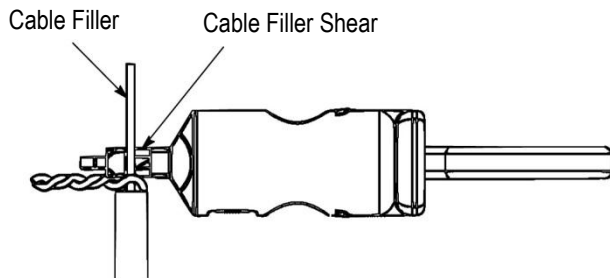

Figure 3
**4. CUTTING THE CABLE FILLER** (Figure 3)